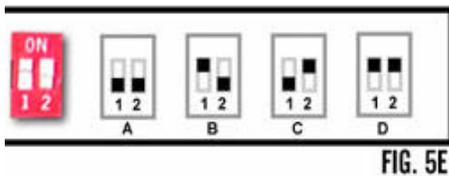

FIG. 5E
- Armotech recommends that this marker be used with some form of agitated or force fed electronic loader/ball feeder if a player plans to use burst mode or full auto mode on the trigger frame. Using an electronic hopper will allow a player to shoot at a higher rate of fire. Fig 5E shows the rate of fire DIP SWITCH and the various settings for the different rates of fire which the trigger frame can handle.
- Fig 5E block A shows the settings for 6 b.p.s.
- Fig 5E block B shows the settings for 7 b.p.s.
- Fig 5E block C shows the settings for 10 b.p.s.
- Fig 5E block D shows the settings for 13 b.p.s.